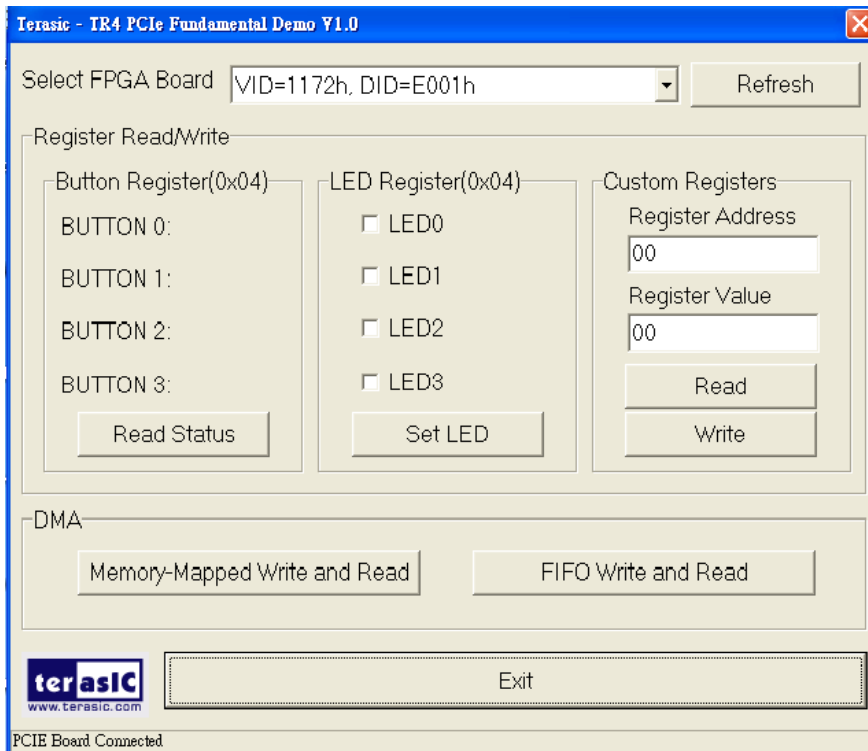

Figure 6-13 PCIe Fundamental Demo GUI
- Launch the demo program PCIe_Fundamental_Demo.exe shown in **Figure 6-13**.